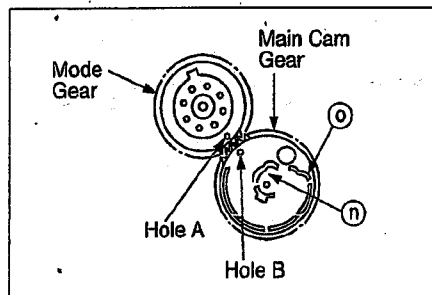

Fig. M31
- (Note of installation) Fig. M31 Install the Main Cam Gear so that the hole A on the Mode Gear is aligned to the hole B on the Main Cam Gear.